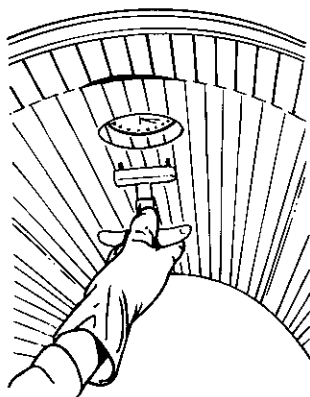

Figure 3.17 Insert the pins of the bowl spanner tool into opposing holes in the vaporizer cap.
3. Remove the injector valve vaporizer cap by inserting the two pins of the spanner tool into opposing holes in the injector valve vaporizer cap (Fig. 3.17).